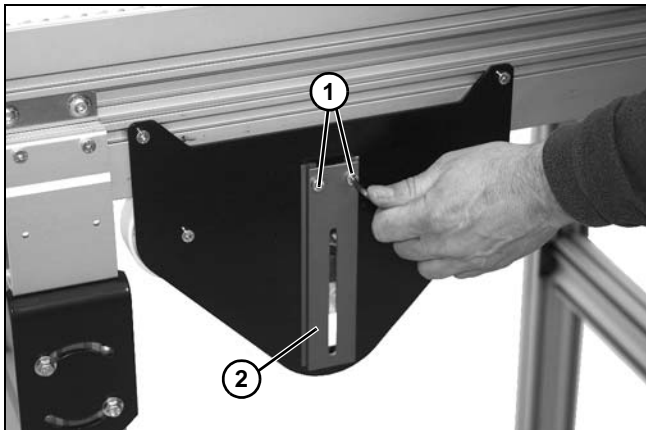

Figure 119
1. Remove two socket head screws (**Figure 119, item 1**) securing side plate (**Figure 119, item 2**) to weighted take-up plate from one side of conveyor.